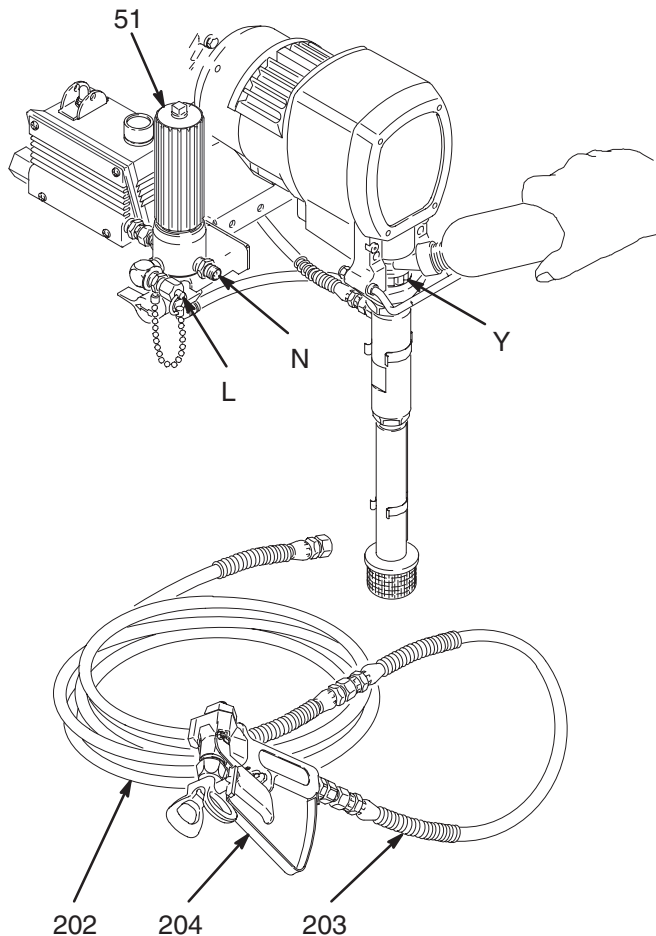

Fig. 2
3. Never install any shutoff device between the filter (51) and main hose (202). See Fig. 2.
4. Always use the primary filter outlet (N) for a one gun operation. Never plug this outlet.
2. **Two gun hookup.** Remove the cap from the secondary hose outlet (L). Connect the second outlet hoses to the sprayer as explained in Step 1, above.
3. **Fill packing nut/wetcup.** Fill the packing nut/wetcup (Y) 1/3 full with Graco Throat Seal Liquid (TSL), supplied. See Fig. 2.
1. **Connect hose and gun.** (Fig. 2)
- a. Remove the plastic cap from the 1/4 npsm(m) filter outlet nipple (N). Screw the 50 foot (15.2 m) main fluid hose (202) onto the nipple. Read the CAUTION, above.
- b. Connect the whip end hose (203) between the main fluid hose and the inlet adapter of the gun (204).